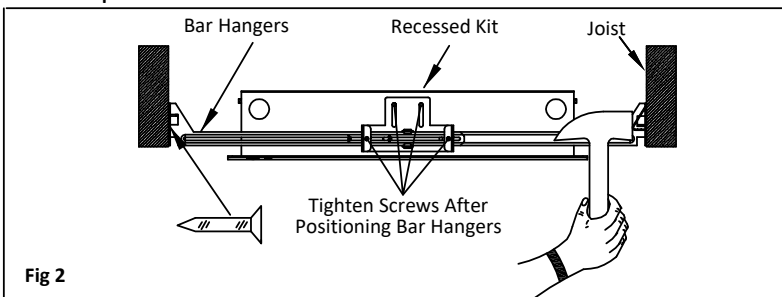

Fig 2
1. Install recessed kits between joists. Position recessed kits temporarily by hammering "nail-in" tabs on bar hangers, then secure permanently with nails or screws. Bar hangers should be level with bottom of joists . Adjust height of recessed kits vertically using adjusting slots and then tightening all screws on adjusting slots and bar hanger bracket to secure adjusting bracket and bar hangers. (see Fig 2)